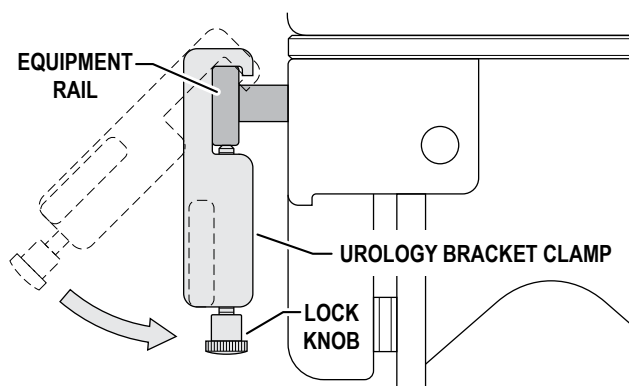

Figure 1. Attach the Urology Bracket
1. With the lock knobs fully loosened and pointing downward, place the urology bracket clamps over the equipment rail at approximately a 45 degree angle (Figure 1).